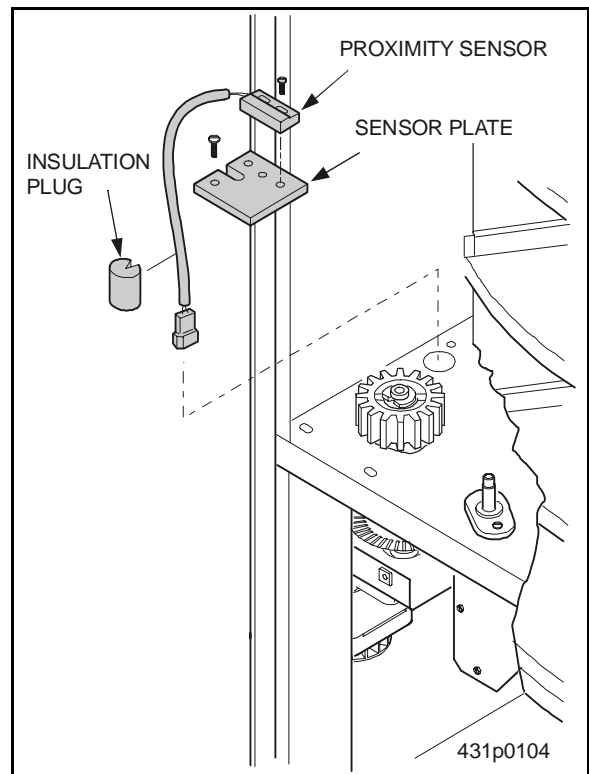

Figure 23
2. Remove two screws securing the sensor plate (figure 23).